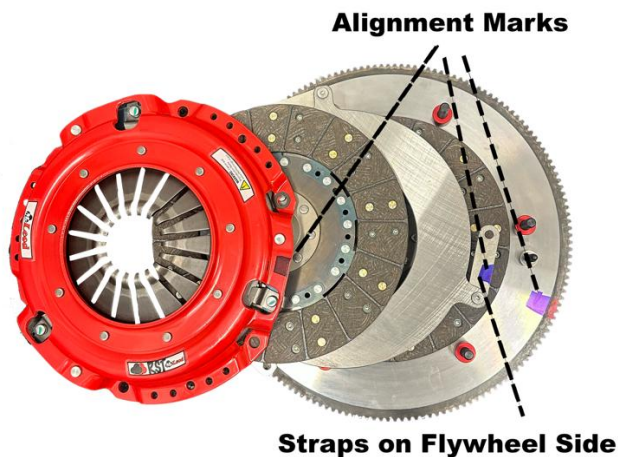

Figure 4
- 8) Install the bottom disc with the sticker on the flywheel side towards the engine. Install the floater onto the studs. Be sure to note the alignment marks. **Do not add any washers to any locations if they were not present with the McLeod clutch assembly.** Floater straps must be on flywheel side. Install the three nuts and tighten to 25 ft/lbs. Check disc clearance at this time. See Figure 4